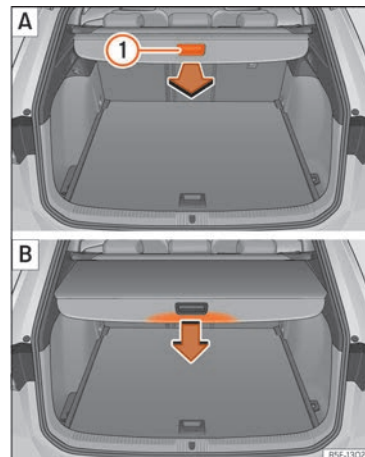

Fig. 128 In the luggage compartment: unrolling and rolling up the shelf. »
- Pull evenly on the rear shelf using its handle »» Fig. 128 ① A in a backwards direction until it audibly clicks into place.
- Press on the handle of the rear shelf in the direction of the arrow to release it »» Fig. 128 ② B.